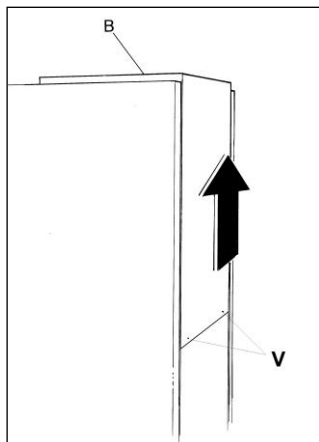

Fig. 13
- Loosen the screws seated on the back panel B (Fig.13).
- Take the back panel B off (Fig. 13).